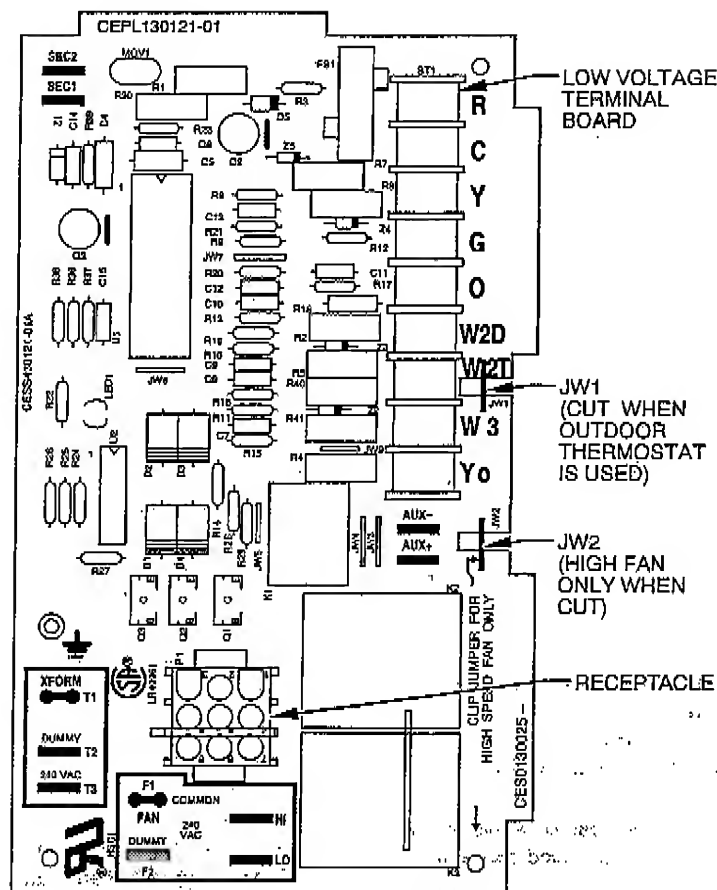

Fig. 22—Smart Heat Printed-Circuit Board (PCB)
2. Jumper wires (JW1 and JW2). (See Fig. 22.)